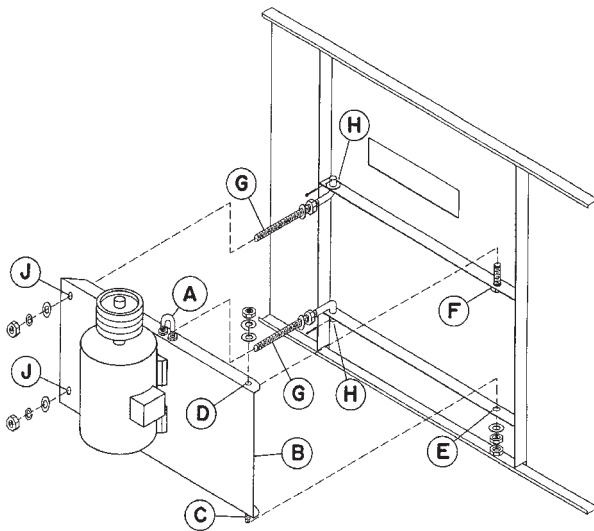

Figure 14 - External Motor Installation.
1. Study Figure 14 before installing the motor base on the unit.